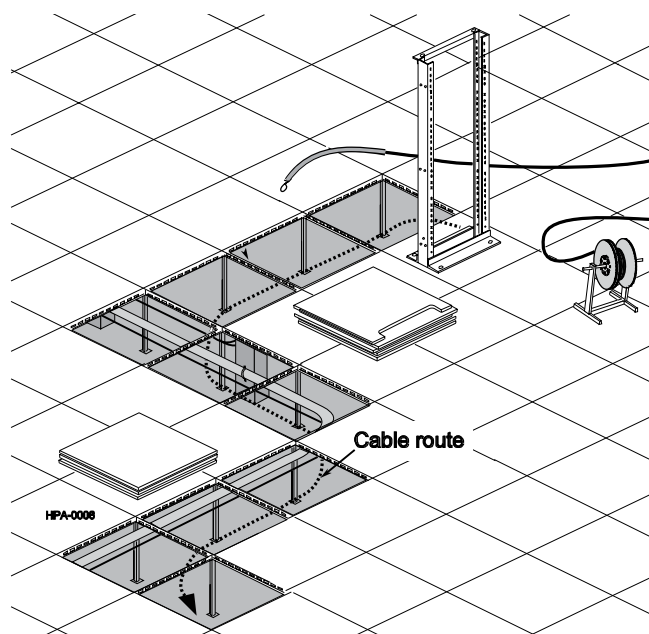

Figure 4 — Reel Stand and Cable Route
Step 2: Place the cable reel on a reel stand so that the pulling grip/cable will pay-off the top of the reel (Figure 4).